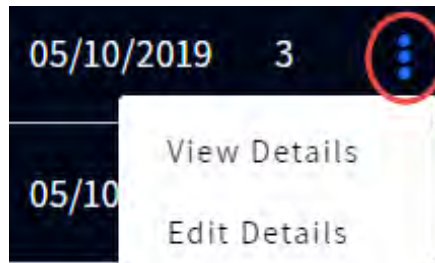

Fig. 1.16
**Drop-down and Pop-out Lists:** The down-arrow  in a field or next to the field indicates there are more options available to choose from. The More icon (ellipsis icon: the three vertical blue dots in Fig. 1.16) also indicates there are more options to choose from. Tap on the arrow or More icon to open the list and select from the available options.